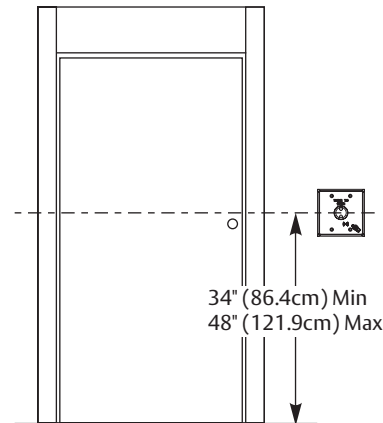

Figure 1
1. Measure and mark wall with horizontal centerline of switch between 34" - 48" (86.4cm - 121.9cm) from floor. (Fig 1)